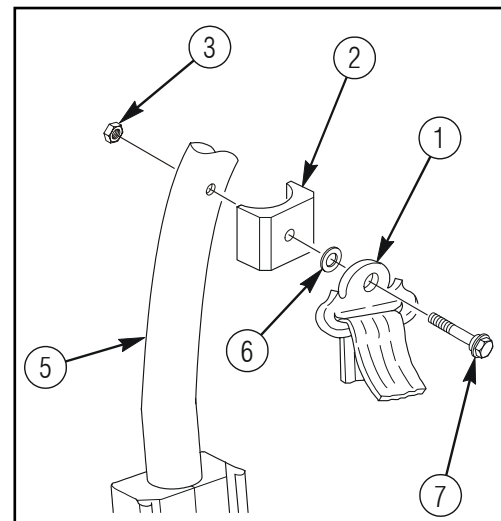

Figure 17a.
1. Remove existing locknut (3), shoulder bolt (7), washer (6), and seat belt D-ring (1) from turret support tube (5) as shown in figure 17a. Discard locknut (3).